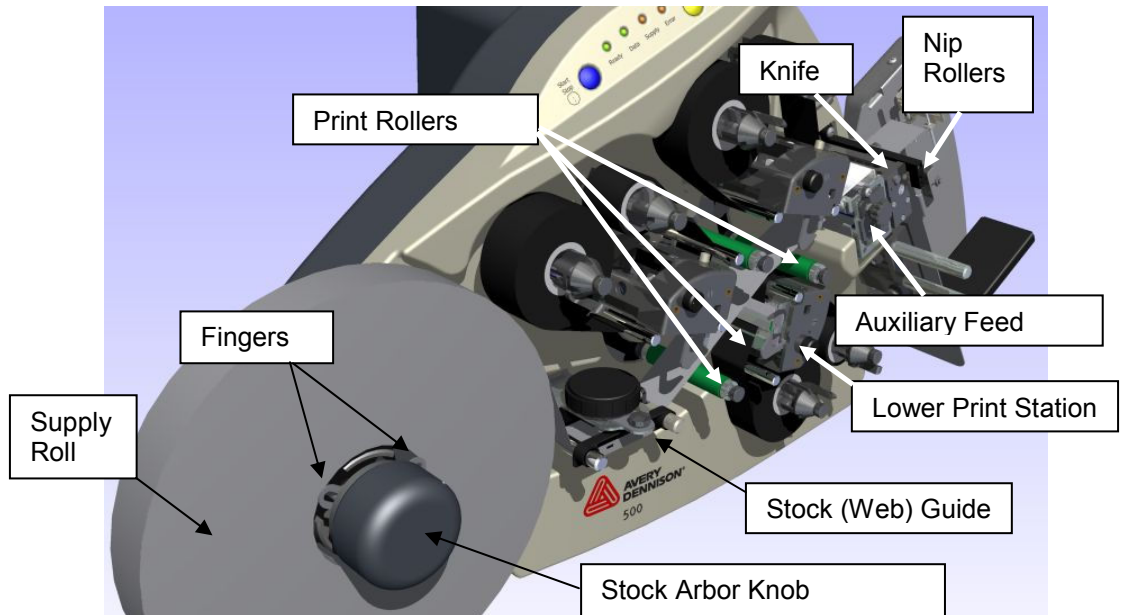

Figure 9: Tape Supply Though Print Stations
Before loading a roll of stock, you will need to be familiar with the following parts of the SNAP 500 printer (Refer to Figures 9 and 10).
5. Slide the stock roll onto the Stock Arbor (see Figure 9).